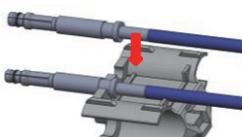

Figure 2
- Orient lower pilot/auxiliaries as shown in (Figure 2)